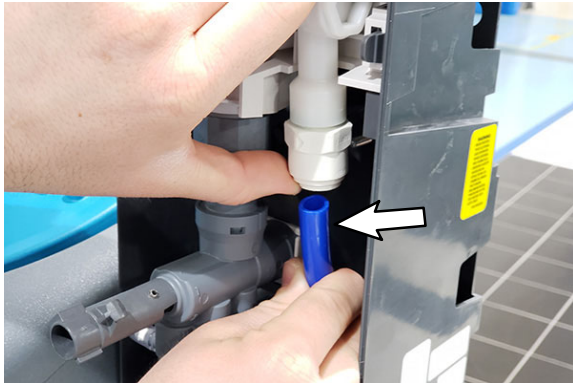

FIG. 21
19. Remove the blue tube from inside the dispenser and discard it. (Fig. 21)